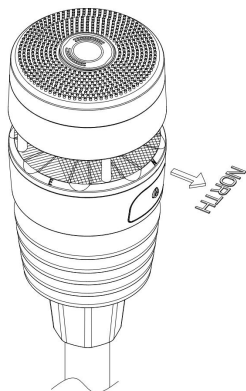

Figure 8
- Once aligned, securely screw the bottom threaded cover in the **NORTH** direction, as shown in Figure 8: